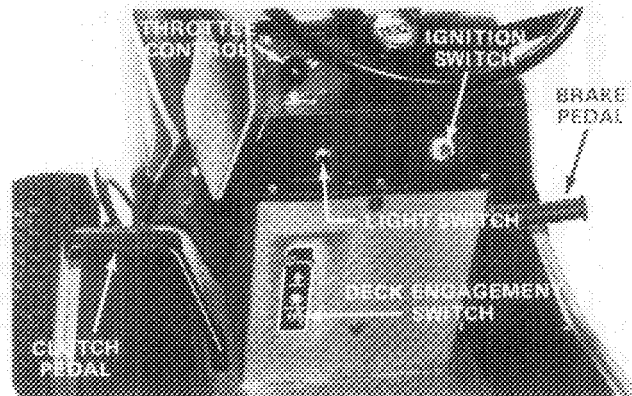
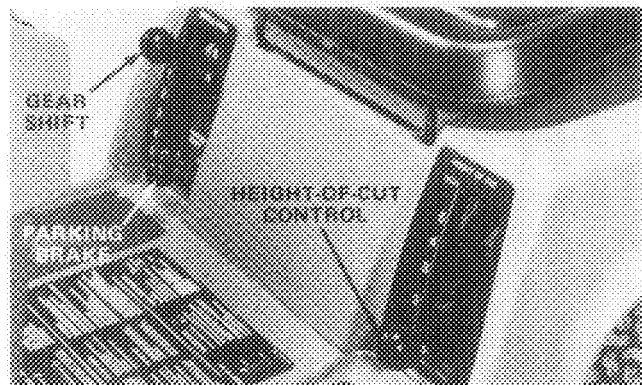

Figure 9
Figure 10
Clutch Pedal (Fig. 9) — Foot operated clutch pedal is used in conjunction with the gear shift. Clutch must be fully depressed when shifting gears so that friction drive plates are separated on clutch assembly.
Throttle Control (Fig. 9) — Throttle control connects to and operates carburetor mounted throttle and choke. Control has three positions: IDLE, FAST and CHOKE. The control must be pushed slightly to the right and forward to obtain CHOKE position.
Ignition Switch (Fig. 9) — Switch is part of battery ignition system, and it has three positions: OFF, ON and START. Key automatically returns to ON position from START position when released after engine starts.
Light Switch (Fig. 9) — Two position switch for actuating headlights. Lights will not function unless engine is running as current is supplied by the engine alternator.
Deck Engagement Switch (Fig. 9) — Toggle switch (Pull out and up to engage) releases blade brake and engages electromagnetic clutch to drive cutter blade.
Brake Pedal (Fig. 9) — Foot operated pedal, which when depressed, actuates a disc brake assembly at the side of the transmission. Clutch pedal should also be depressed while braking to achieve maximum brake effectiveness.
Parking Brake (Fig. 10) — Parking brake is used in conjunction with standard brake assembly. When brake pedal is depressed and parking brake lever is pulled upward, a latch plate secures the brake assembly in the engaged position preventing the machine from moving.
Gear Shift (Fig. 10) — Transmission has five forward speeds, neutral and reverse, and has an in-line shift pattern. An interlock switch, which prevents engine from being started when transmission is in gear, is mounted on the top of the transmission.
Height-of-Cut Control (Fig. 10) — Height-of-cut control varies the cutting height from 1 to 3 1/2 inches (25 to 85 mm) in five increments.
3. To release the parking brake, depress brake pedal (Fig. 9), and push parking brake lever (Fig. 10) down to return it to its disengaged position. Release brake pedal slowly.
1. Assure the deck engagement switch is in DISENGAGE position (Fig. 9).
2. Move height-of-cut control (Fig. 10) into desired setting.